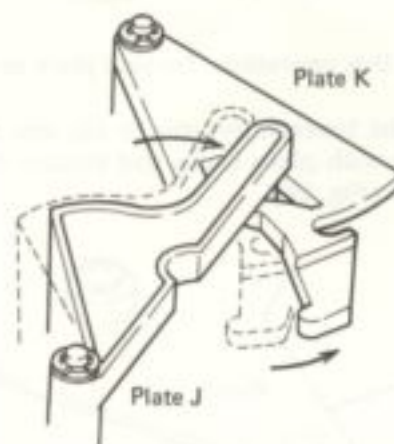

Fig. 23
11. When plate G returns to its original position, plate J (at plate F above plate G) returns plate K to its original position (Fig. 23).